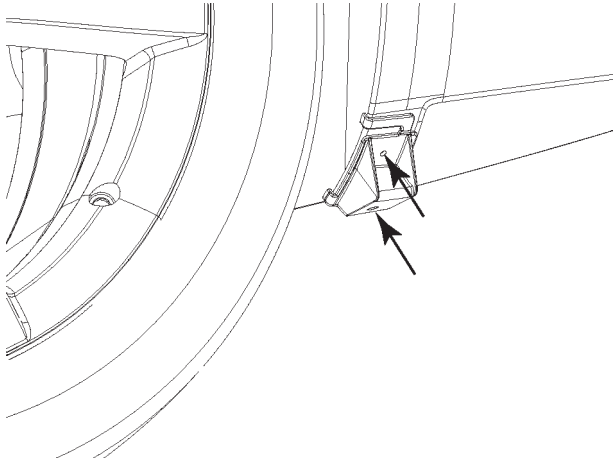

FIGURE 12
20. Using wheel well brackets as a template, drill (2) 1/4" holes into rear fascia. Refer to figure 12.